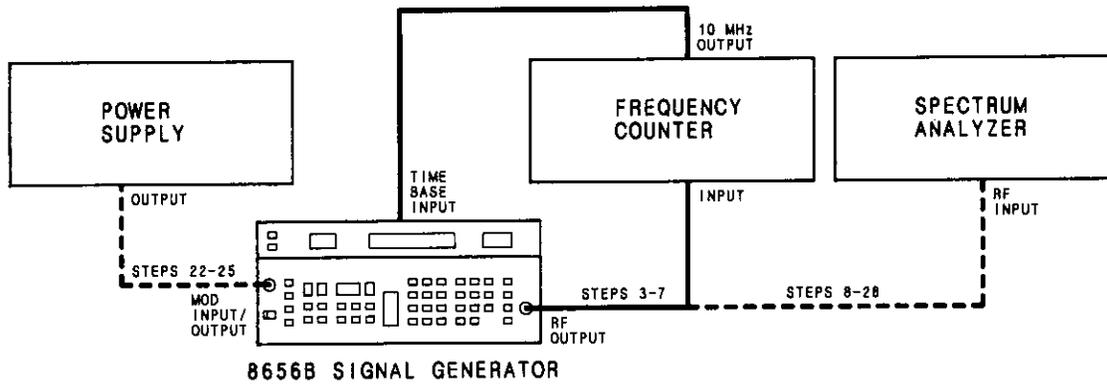

Figure 3-3. Test Setup for Basic Functional Checks
3. Connect the RF OUTPUT of the Signal Generator to the input of the frequency counter, and the 10 MHz reference output from the frequency counter to the TIME BASE INPUT located at the rear of the Signal Generator as shown in Figure 3-3.
8. Connect the RF OUTPUT of the Signal Generator to the input of the spectrum analyzer as shown in Figure 3-3.
24. Connect a power supply to the MODulation INPUT/OUTPUT Connector of the Signal Generator as shown in Figure 3-3. Set the power supply for a +1 Vdc output and switch the voltage line on. Notice the LO EXT annunciator will remain on. The carrier frequency displayed on the Spectrum Analyzer should move three divisions to the right. The carrier frequency is off-set by 60 kHz.